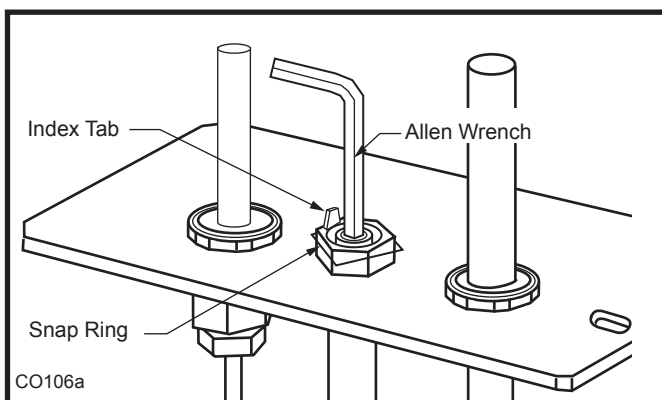

Fig. 73 Remove pilot orifice and replace with conversion orifice.
2. Remove pilot orifice with the appropriate size Allen wrench. (Fig. 73)